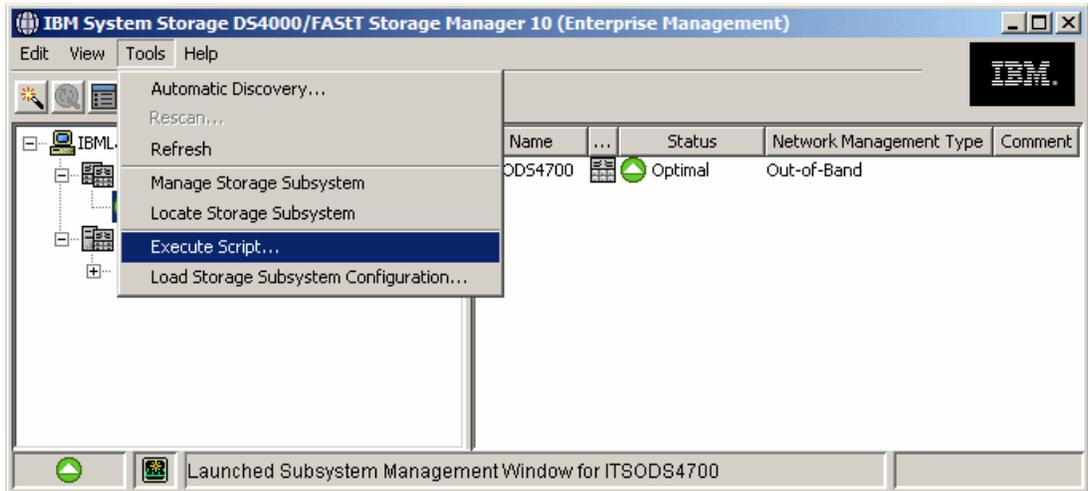

Figure 11-1 Starting the Script Editor
2. Click **Tools** → **Execute Script**, as shown in Figure 11-1, or right-click and select **Execute Script**.